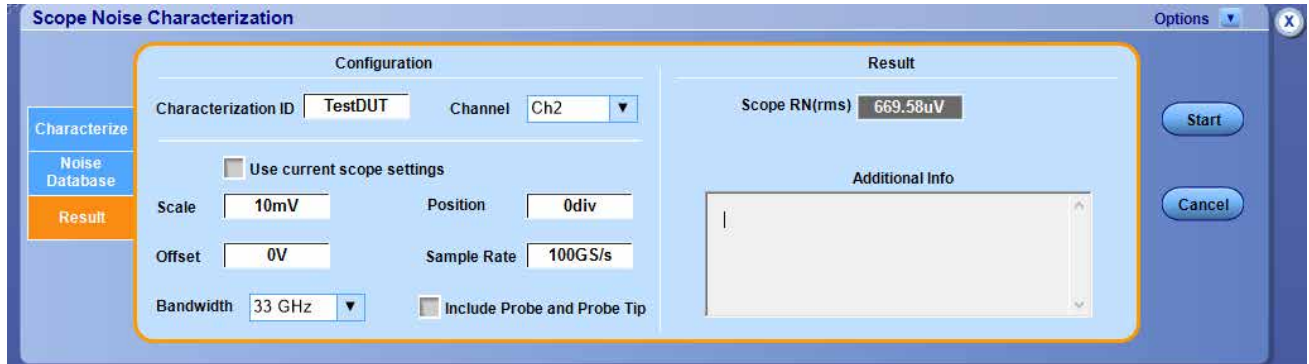

Figure 18: Compensating Noise Value
4. Start the Scope Noise Characterization application and go to the **Result** panel, as shown in Figure 18 on page 25.